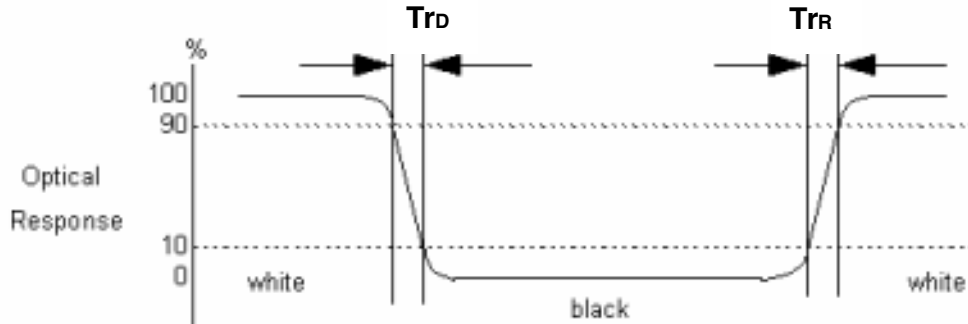

**Fig.4-2 Optical measurement point**
2. Surface luminance is luminance value at point 1 across the LCD surface 50cm from the surface with all pixels displaying white. From more information see Fig. 4-2. When  $V_{DDB} = 24V$ ,  $I_{DDB} = 6.4A$ .